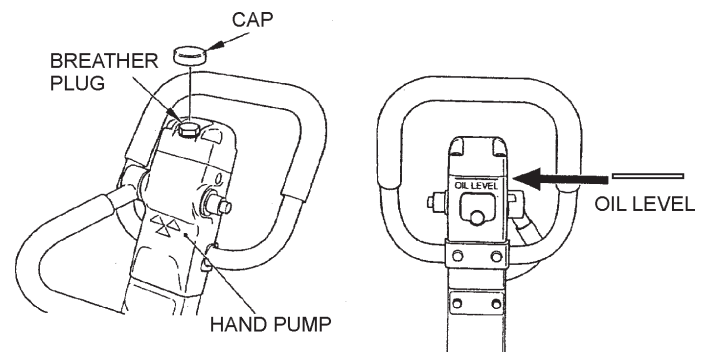

Figure 10. Vibrator Oil Plug
2. With the handle bar positioned vertically (storage position), use a 24 mm wrench and remove breather plug (Figure 10). Visually check to see if hydraulic oil comes up to the oil level line that is etched on the back side of the handle.